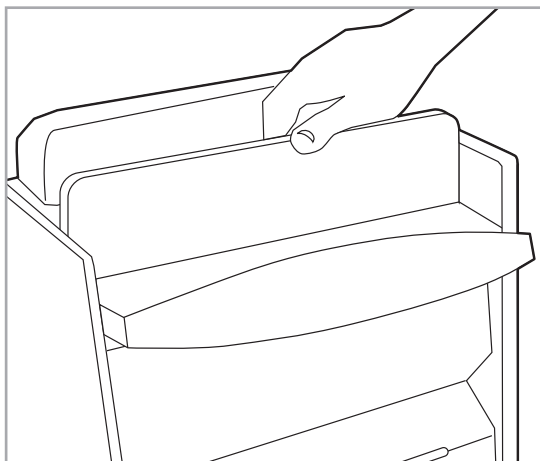

Figure 3.7
5) Replace the background stone (see Figure 3.7).